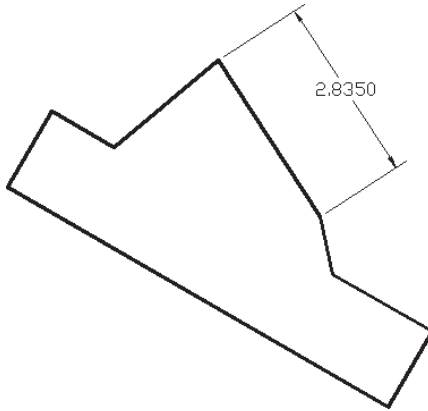

Figure 10.5
4. At the **Specify dimension line location or [Mtext/Text/Angle]:** prompt, you'll see a dimension follow the cursor. Click a point to place the dimension. The dimension appears in the drawing, as shown in Figure 10.5.